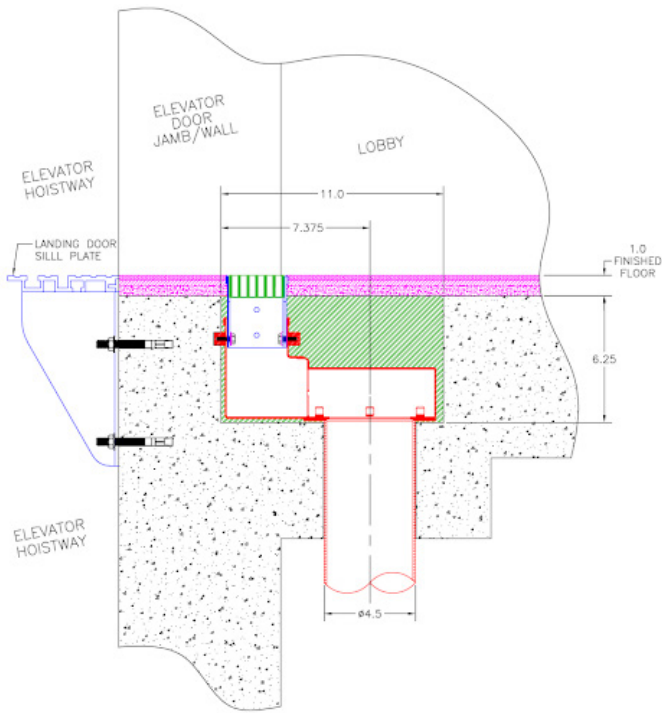

Figure 1: Threshold Drain Cross Section
1. During construction of the elevator hoistway and surrounding lobby areas, cast a void in the elevator threshold as shown within Figures 1 and 2.
3. After the concrete has cured, remove the forms from the drain area and core a hole through the bottom of the void for the drain outlet (Figures 1 & 2) .